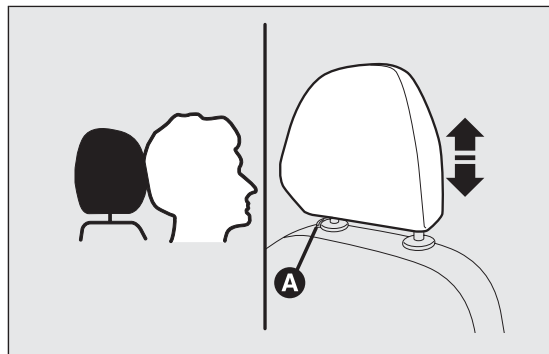

fig. 32
- Downward adjustment: press button A fig. 32 and lower the head restraint.